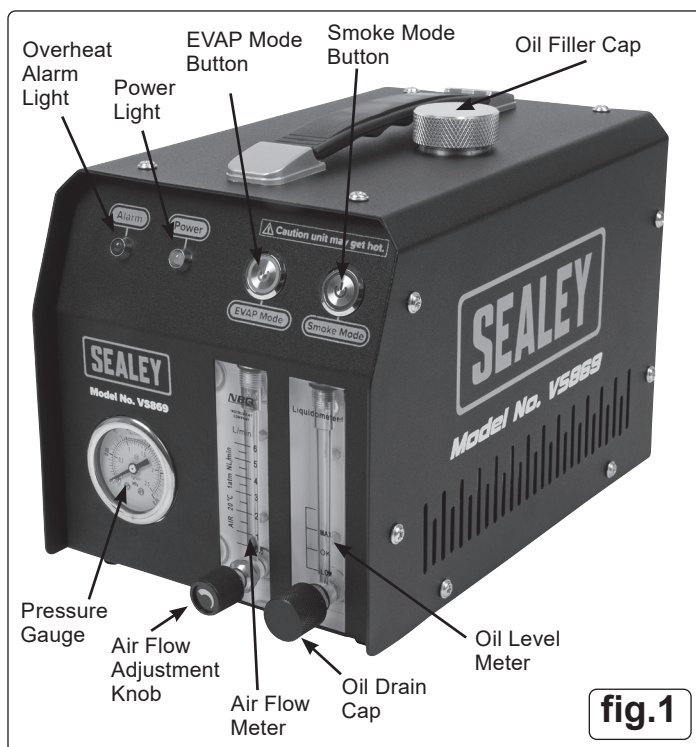

fig.1
- 5.1.3. Remove the oil filler cap (fig.1), add 10ml of test oil into it, and tighten the cap.
- 5.1.4. Turn on the power switch (fig.2). Then press the smoke mode button (fig.1).
If the product is used for an excessive period of time, the internal temperature of the machine will rise and the overheat alarm light will illuminate (fig.1). Please disconnect the power supply immediately to stop device working and allow it to cool down.
- 5.2.3. Remove the oil filler cap (fig.1), add 10ml of test oil into it, and tighten the cap.
- 5.2.4. Turn on the power switch (fig.2). Then press the EVAP mode button and the smoke mode button respectively (fig.1).
- 5.2.7. If there is no leak in the system, the meter sinks at the bottom and the pressure gauge pointer will rise (fig.1).
- 5.2.9. By observing the pressure gauge pointer (fig.1), quickly find out whether the vehicle pipeline system leaks or not.
- 5.2.11. The remaining oil level inside the machine can be checked using this meter (fig.1). If the oil is very yellow, replace the oil.
- 6.1.1. Remove the oil drain cap (fig.1), drain the test oil out and pour it back into the oil bottle.